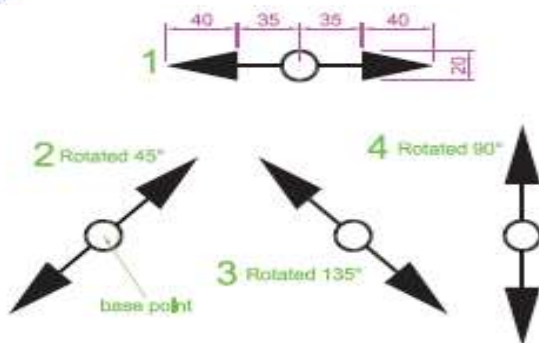

Fig. 5.27 Example – Rotate
Example – **Rotate** (Fig. 5.27)
1. Construct drawing **1** of Fig. 5.27 with **Polyline** . Copy the drawing **1** three times (Fig. 5.27).
3. Repeat for drawings 3 and 4 rotating as shown in Fig. 5.27 .